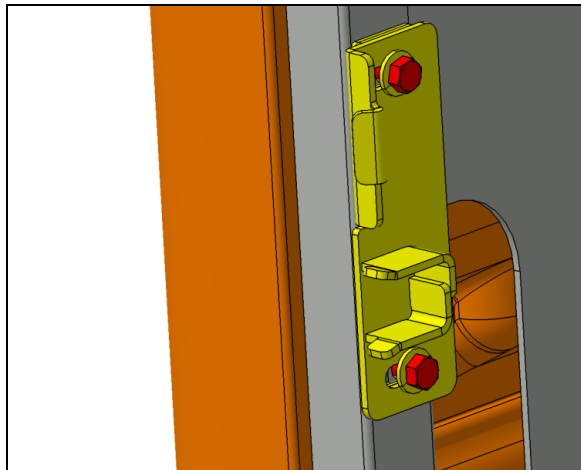

FIGURE 69
17. Perform the transversal adjustment by moving the strike plate using the slotted holes (FIGURE 69).